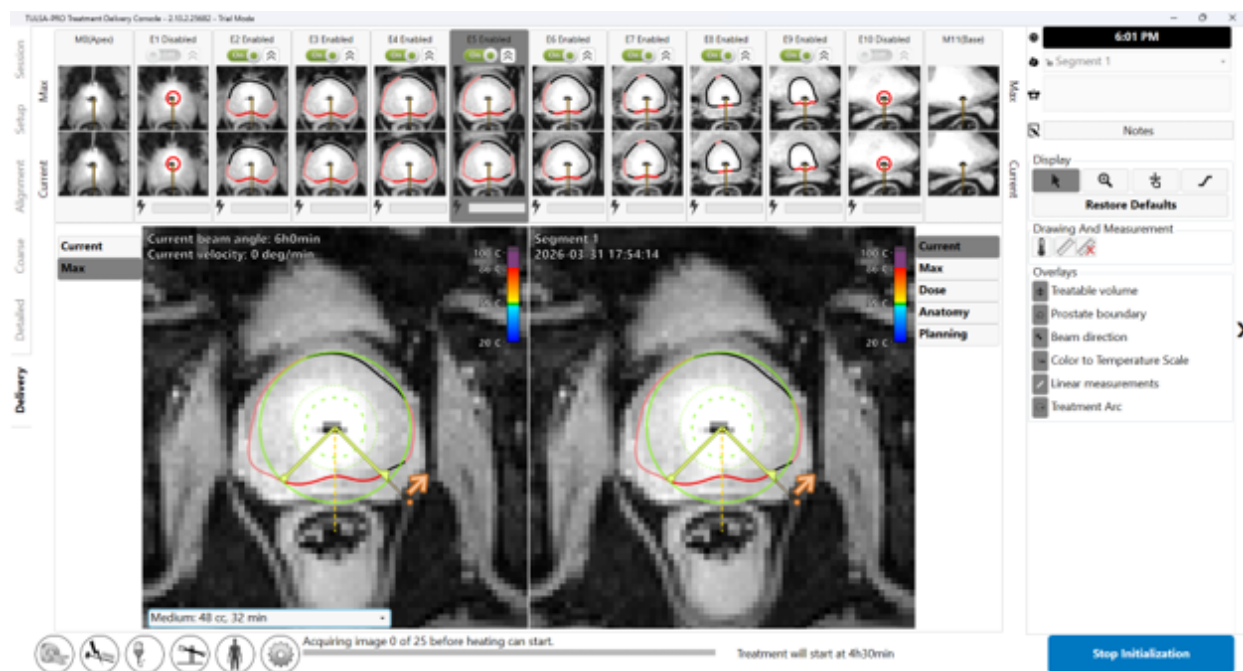

Figure 48: Treatment Initialization state
4. **Radiologist:** Click **Start treatment** on TDC. A window will prompt you to verify the core body temperature using an external temperature measurement device before proceeding. Enter the temperature in degrees Celsius and click **Confirm**. The software will enter **Treatment Initialization** where it will wait to receive thermometry images (*Figure 48*). Ask the MR technologist to run AX THERM.